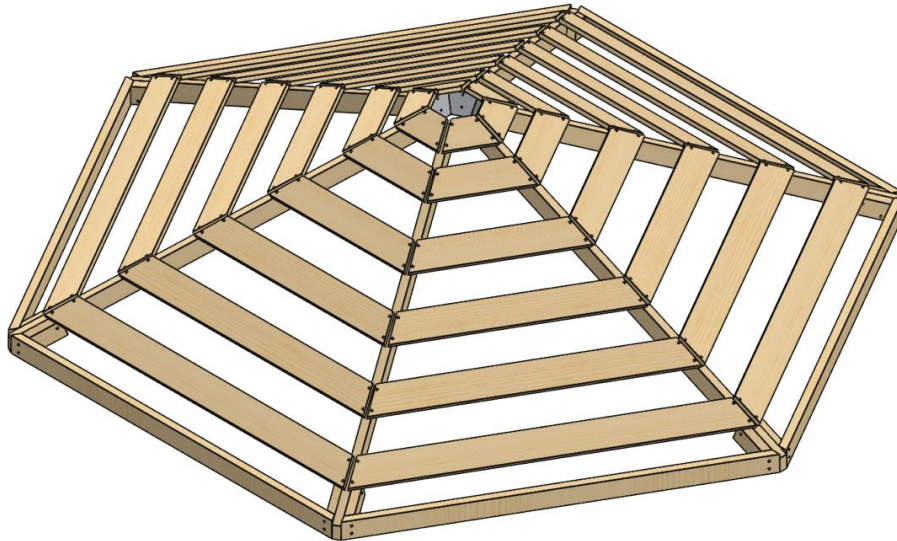

Figure 13
14) Complete the remaining 5 sections of the purlins in the same manor see Figure 13.